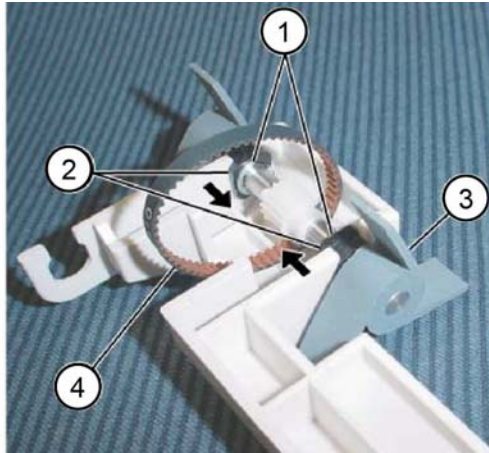

Figure 8 Rear paddle belt removal
10. Remove the paddle belt, Figure 8 :
- a. Remove two E-clips (1).
- b. Move the two bearings (2) in the direction of the arrow.
- c. Remove the sub paddle shaft assembly (3).
- d. Remove the rear paddle belt (4).